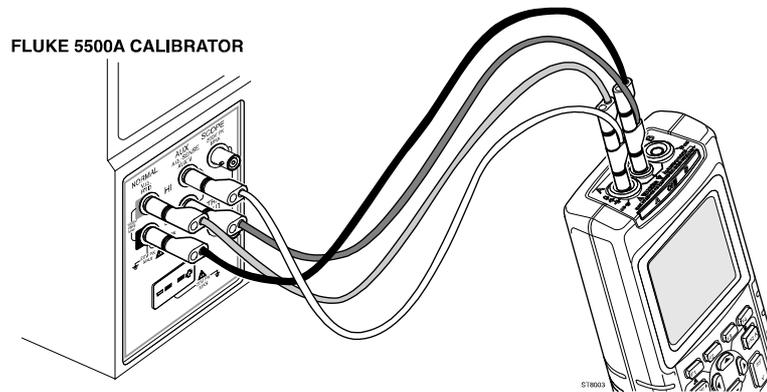

Figure 5-8. Four-wire Ohms calibration connections
2. Connect the UUT to the 5500A as shown in Figure 5-8.